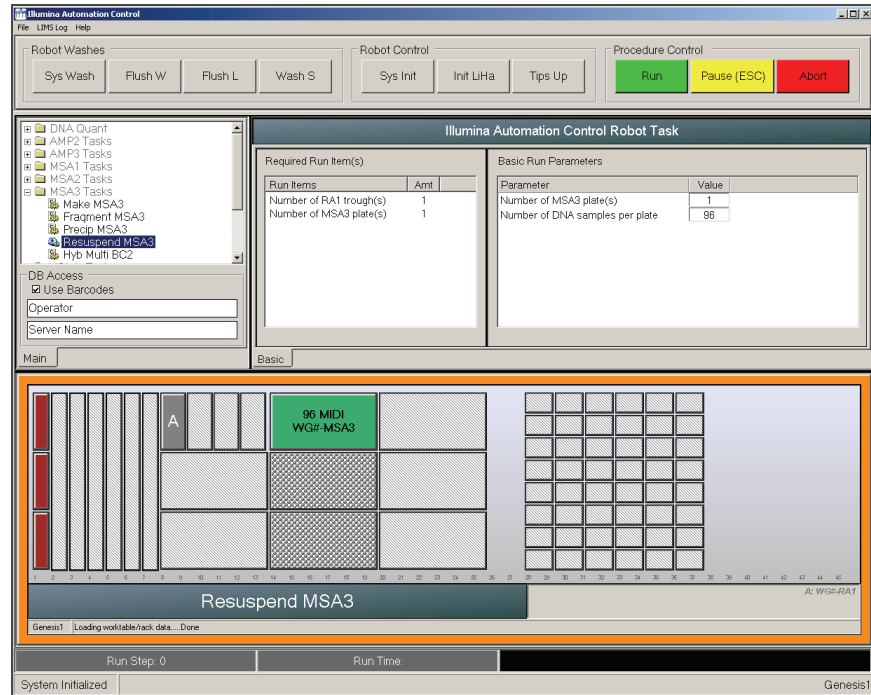

Figure 129 Resuspend MSA3 Screen
3. Place the MSA3 plate on the robot bed according to the bed map (Figure 129).